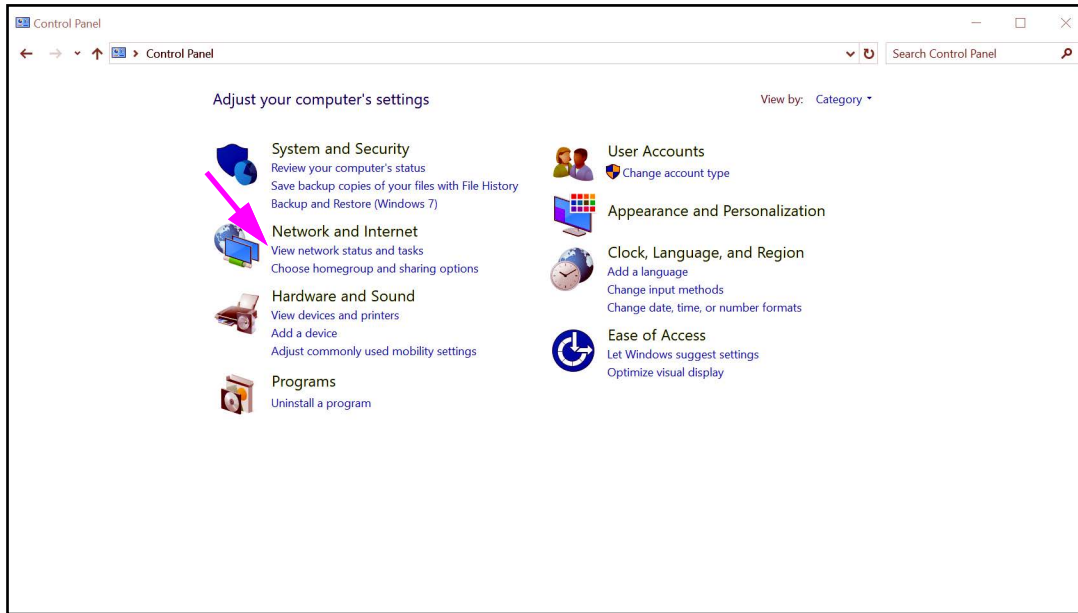

Figure 2-24. All Control Panel Items Window—Category View
2. Click the **Change Date and Time...** button. The Date and Time Settings dialog box appears. See Figure 2-24.